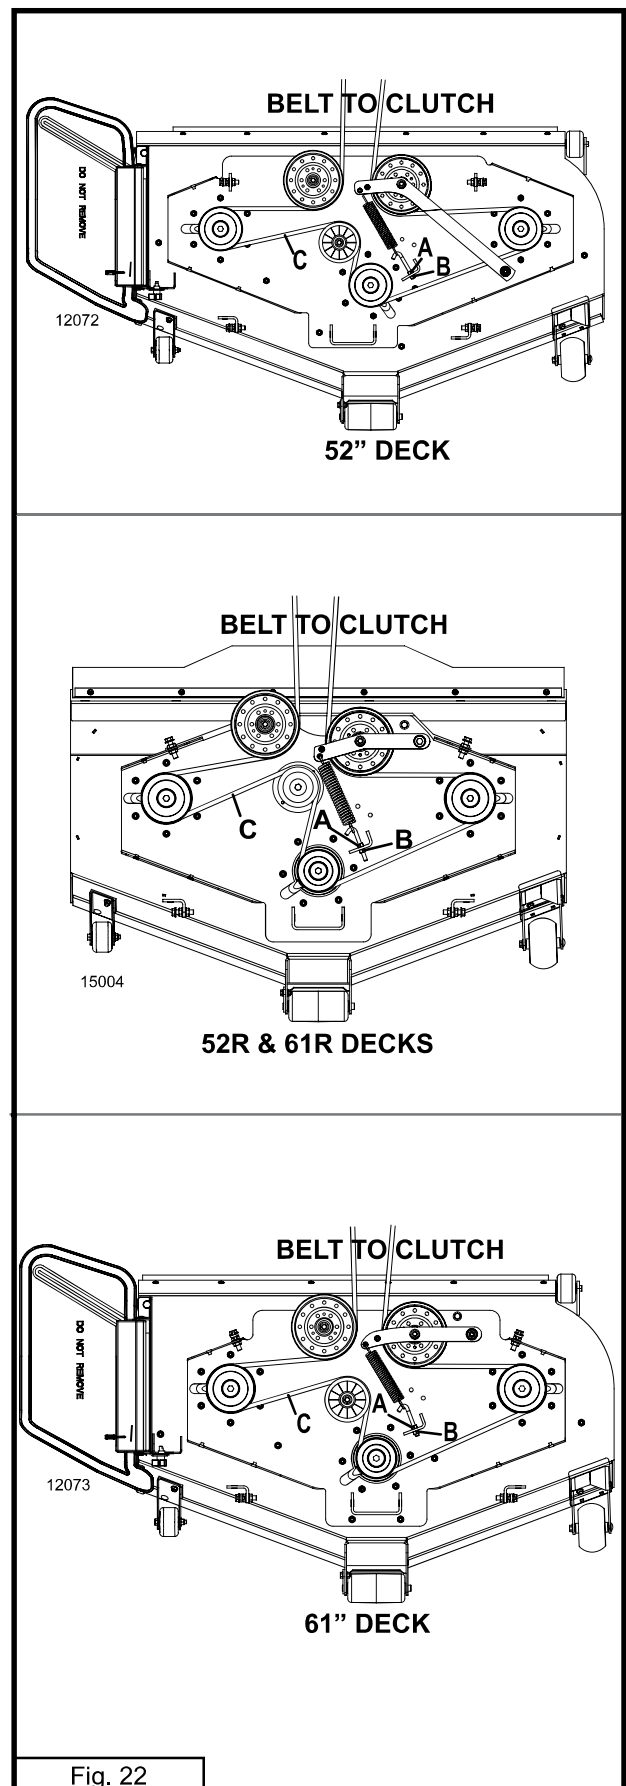

Fig. 22
(Refer to Fig. 22)
2. Loosen the lock nut (A) and back off (counterclockwise) the draw nut (B) until tension is released from the old belt (C) and it can be lifted off the deck sheaves.
3. Remove clevis pin (see page 47, item 19) on brake cable clevis yoke (item 18, page 47) at the transmissions, so belt can be removed.
4. Install the new belt following Fig. 22 for proper belt routing.